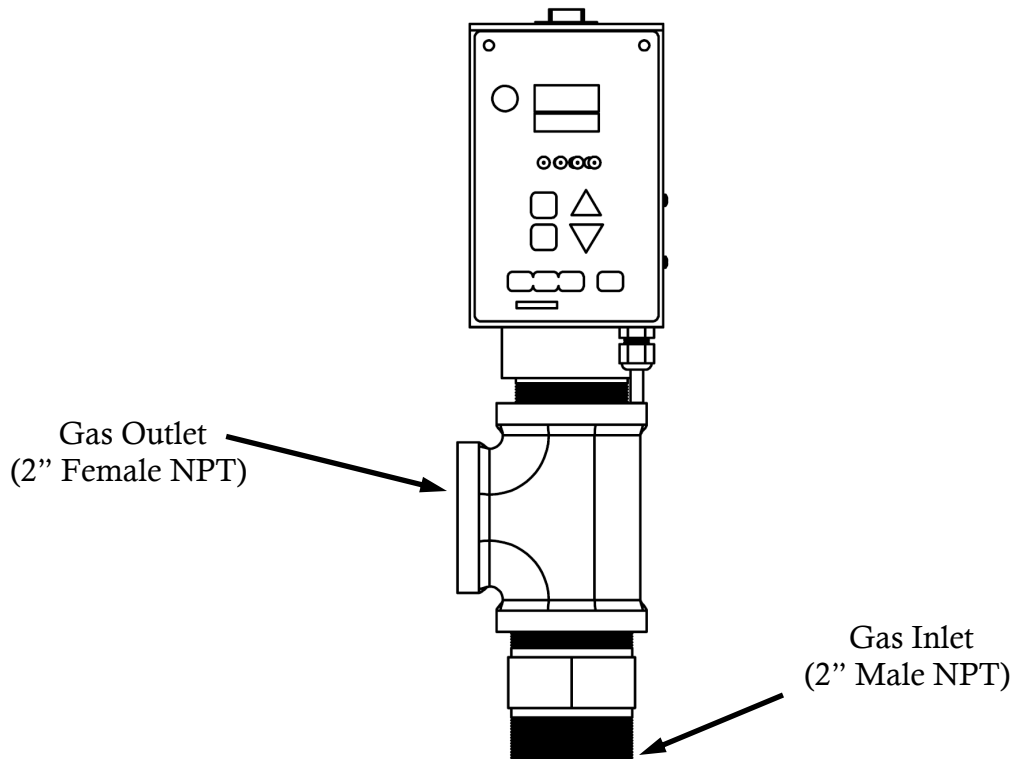

Figure 2
- Attach pipe fittings to the inlet and outlet of the PCV™ as identified in Figure 2 below. It is acceptable to utilize bushings or reducers at the PCV™ ports to accommodate the desired pipe size. However, undersized piping may limit the maximum flow rate capability. Consult pipe sizing charts or contact Atmosphere Engineering to ensure that the desired flow rates will not be compromised.